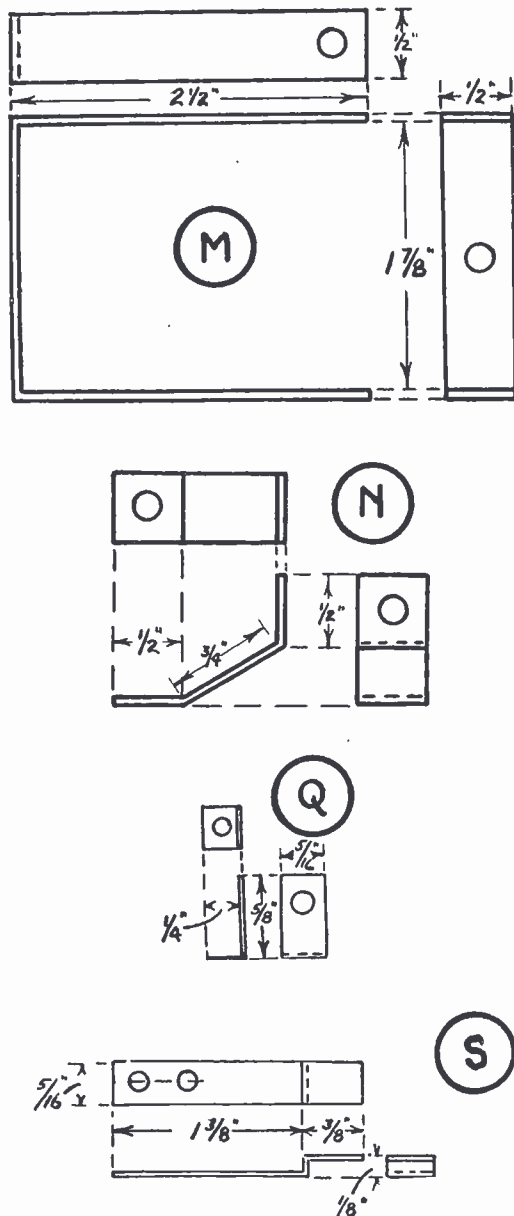
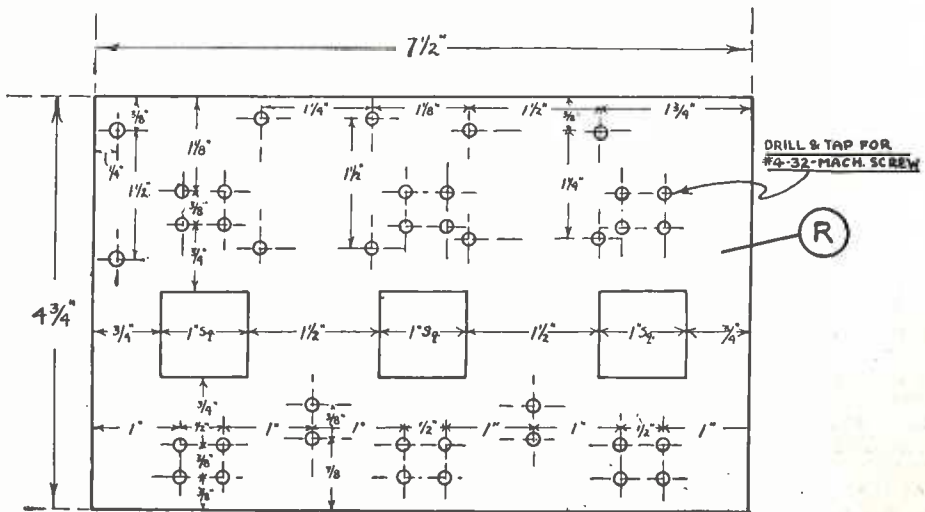

FIGURE 3a
FIGURE 6
- M—Variometer supports, brass (shown in detail in Figure 3a);
- N—Brass brackets for fastening the composition tube to variometer (see Figure 3a);
- Q—Phosphor bronze mounting for grid leak (see Figure 3a);
- S—Phosphor-bronze contact-fingers for sockets (see Figure 3a);
The next step is the preparation of the shelf assembly R. This shelf panel should be cut to the correct size ($4\frac{3}{4}$ by $7\frac{1}{2}$ inches), and should then have three square holes cut in it, as shown in Figure 6. These holes may be easily made by boring a hole in each corner of the square and cutting out the sides of the square with a small fretsaw; the squares may then be dressed down evenly with a small file. The eight holes for fastening the four contact fingers for each socket should be drilled and tapped for $4/32$ round-head brass machine screws. The three sets of contact fingers S should then be made of phosphor-bronze (as shown in Figure 3a) and fastened to the under side of the shelf, with the square contact surfaces projecting up into the square holes (see S, Figure 3). The three aluminum socket spinnings L should then be screwed to the top side of the shelf as shown in the same figure.
Next, the two spring contacts Q should be made of phosphor-bronze as in Figure 3a, and fastened to the upper side of the shelf by means of two machine screws, as shown at QQ, Figure 3. The grid leak tube G may then be inserted in the two holes in the contacts made for that purpose.
Let us start by cutting the insulating tube, which is $3\frac{1}{4}$ inches outside diameter, to a length of $4\frac{3}{4}$ inches. Bore a small hole in one end of this tube, one-eighth of an inch from the end, just large enough to pass the No. 18 single cotton-covered copper wire, and thread one end of the wire through the hole, and proceed to wind on the tube the 18 complete turns that constitute the primary coil A. Another hole is then bored at the finish of the winding, and the wire threaded through it, and a six-inch lead brought out through the center of the tube. One-quarter of an inch farther on beyond this last hole, another hole should be made for the start of the secondary winding (coil B). For this coil wind on, in the same spiral direction as the coil A, 55 turns of wire and finish off in the same manner as with coil A. If the "Litz" cable is used for this coil, slightly better results will be obtained in both tuning and signal strength. The results obtained with the ordinary solid copper wire, however, will be almost as good, due to the use of the regenerative circuit, which tends to decrease the resistance of the coils, thus doing away with the losses in the circuit. Now make the brass brackets according to the dimensions as shown at N in Figure 3a. These should be fastened to the tube by means of short machine screws and nuts (see Figures 3 and 4).
We can now set the tube aside for the time being and make the two large brass brackets M for mounting the variometer. These are bent and drilled as shown in Figure 3a. The two long screws that hold the front half of the variometer together are then extracted, the two brackets are placed in the position shown at M in Figures 3 and 4, and the bottom screw is put back and tightened. The bottom rear screw that runs through the variometer is then taken out and the tube with the coils A and B wound on them is placed in the position shown in Figures 3 and 4, and the top front screw and the bottom rear screw of the variometer inserted through the brass brackets, thus fastening the tube securely to the variometer.